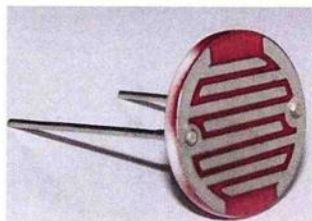

Figure 2: Measurement device
15. The device in figure 2 is used to measure 2